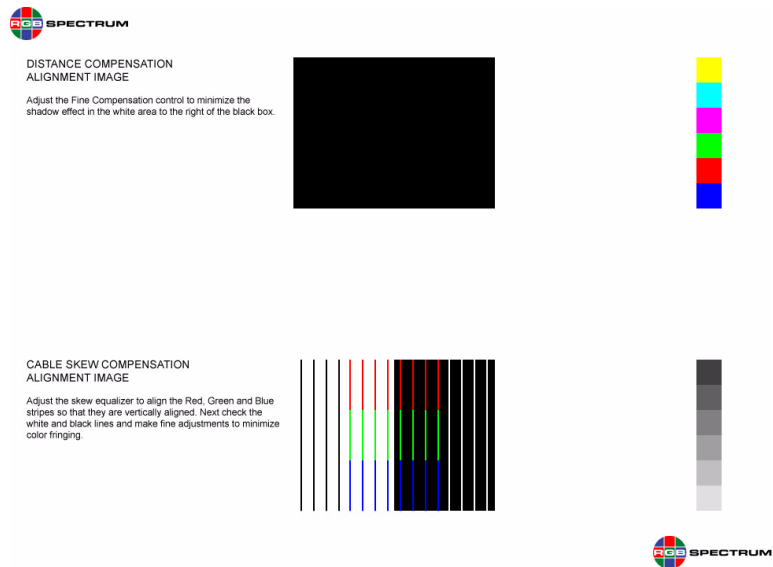

Figure 3-3. Test Alignment Image
Picture quality is affected by the type and length of the UTP cable that is connected between the transmitter and receiver. The *XtendView* receiver provides controls that can be used to optimize the picture quality for lengths from 0 - 1500 ft. This is accomplished in conjunction with the test image (Figure 3-3) that was supplied on the CD ROM with your *XtendView* system. Note that the transmitter does not require any calibration.
1. Display the test image (Figure 3-3) on the PC connected to the *Xtend-View* TX transmitter.
A correctly adjusted image should not exhibit streaking (under-compensated) or ringing (overcompensated) artifacts. The transition between the black box and the white background should be crisp and free of black or white trails to the right of the box. See Figure 3-3 for a view of a test image when the distance and skew compensation have been correctly set.
A correctly adjusted image should not exhibit color fringing on the black and white areas of the image. See Figure 3-3 for a view of a test image when the distance and skew compensation have been correctly set.